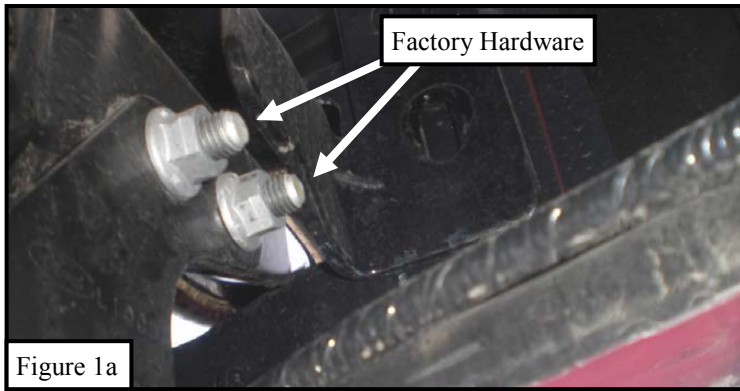
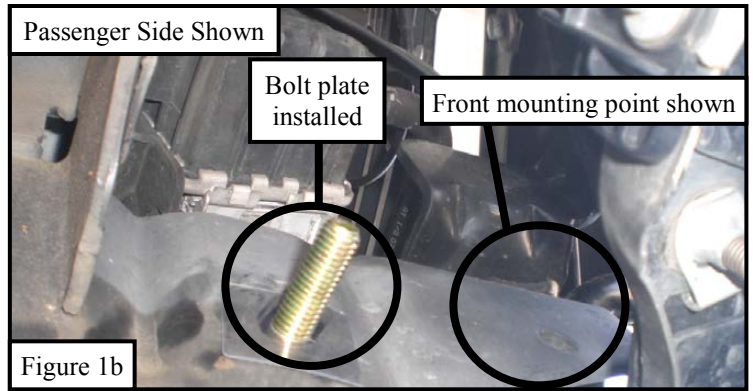

Figure 1a
Figure 1b
- Starting underneath the front of the vehicle. Determine if your vehicle is equipped with factory frame horns, if so the factory hardware will be used to install the mounting brackets (**Figure 1a**), if not equipped attach by locating the factory slot and hole on the outside of the drivers side frame. Insert (1) M12 stud plate into the slot in the frame and thread (1) plastic retainer onto the stud plate to keep it from falling into the frame (**Figure 1b**).